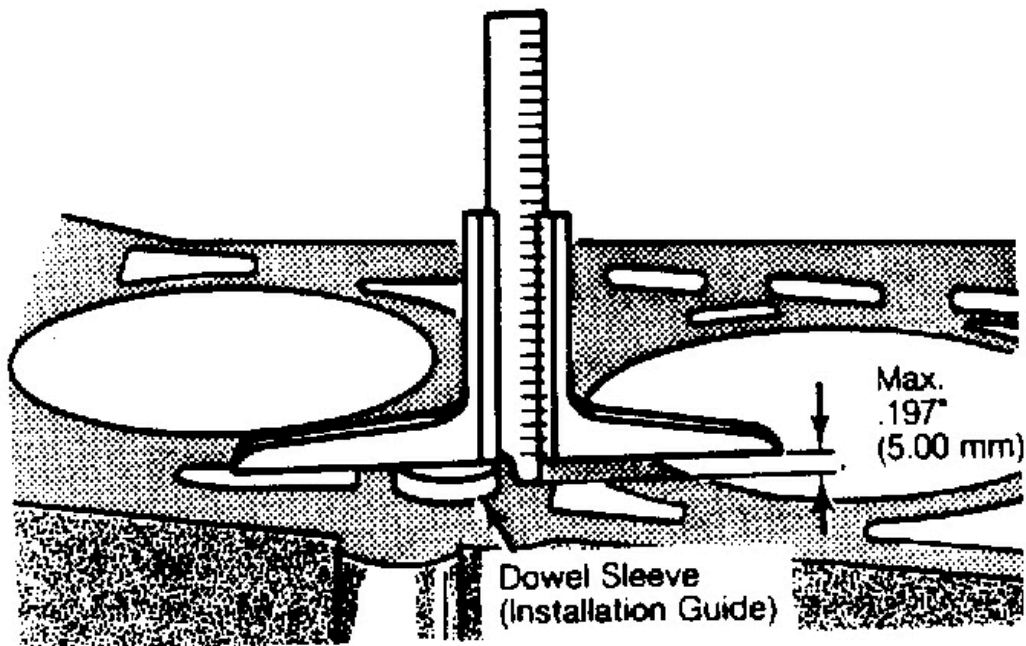

Fig. 4: Measuring Dowel Sleeve Projection Above Cylinder Block
1. Clean all gasket mating surfaces. Measure distance dowel sleeve (installation guide) projects above cylinder head mounting surface. See **Fig. 4**. Maximum projection should not exceed .197" (5.00 mm).